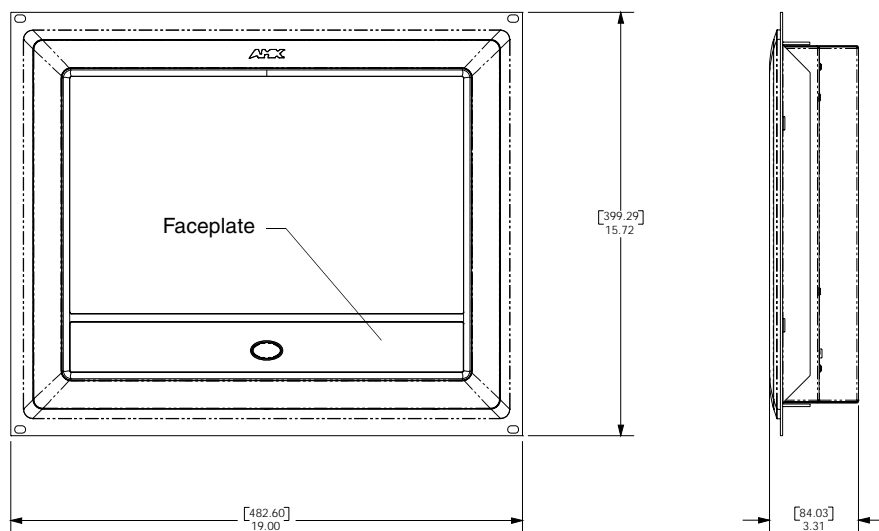

FIG. 63 NXD-1700VG Wall Mount panel installed into an NXA-RK17 Rack Mount Kit
6. Insert the main 17-inch Modero unit into the NXA-RK17 (FIG. 63).